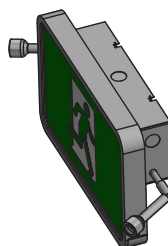

Figure 5
6. Re-attach fixture and power pack to power pack cover and secure with bottom screw (figure 5).